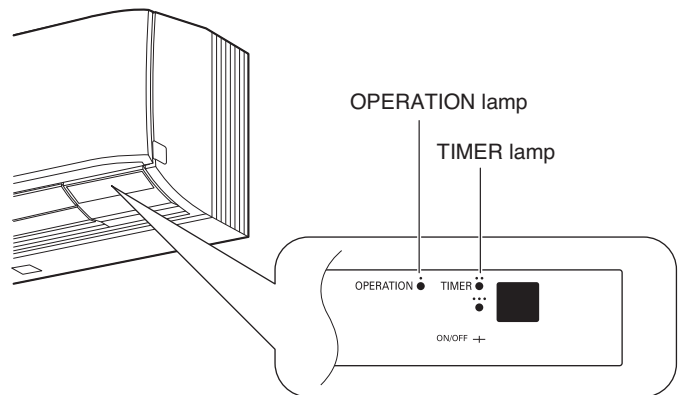

Fig. 13
- This starts the fan producing uncooled forced air with the 3 indicator lamps (OPERATION lamp, TIMER lamp, and ✻) on the main unit blinking. (Fig. 13)